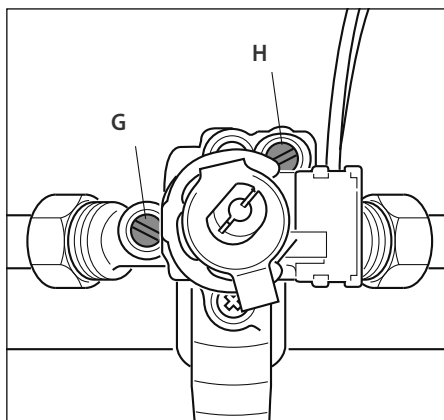

Fig. 9b
- Using a screwdriver, turn the screw "H" until the correct setting is obtained (Fig. 9b).
- Using a screwdriver, turn the screw "G" until the correct setting is obtained (Fig. 9b).